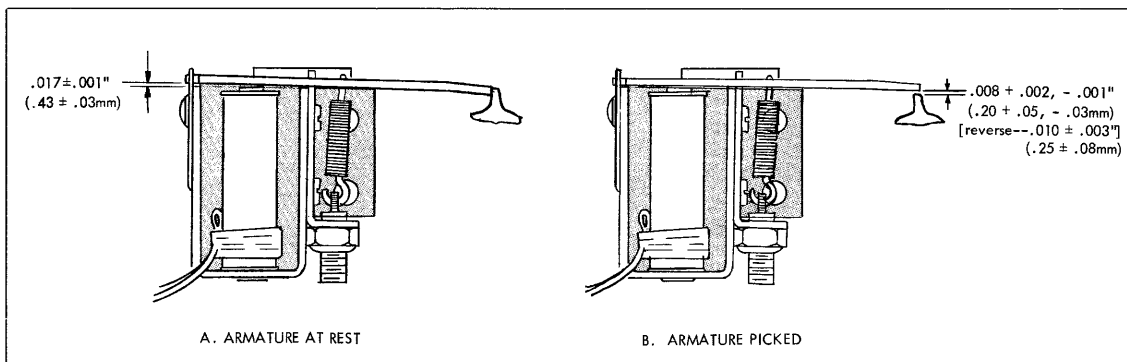

Figure 25
2. *Check escapement actuators for: anti-residual shim wear; armature tip wear; clutch tooth wear; cleanliness; clearances (Figure 25).
Figure 25 shows the tolerances to which the escapement assembly in the Capstan Drive Mechanism must adhere. Note that units incorporating the Reverse Option contain two such escapements. Adjustment procedures are identical for both forward and reverse escapements, but clearances differ and therefore require different size gages. See Reference Table - Measurements, page 26. The following procedures are based on a forward escapement. But they include gage identification for reverse escapements.